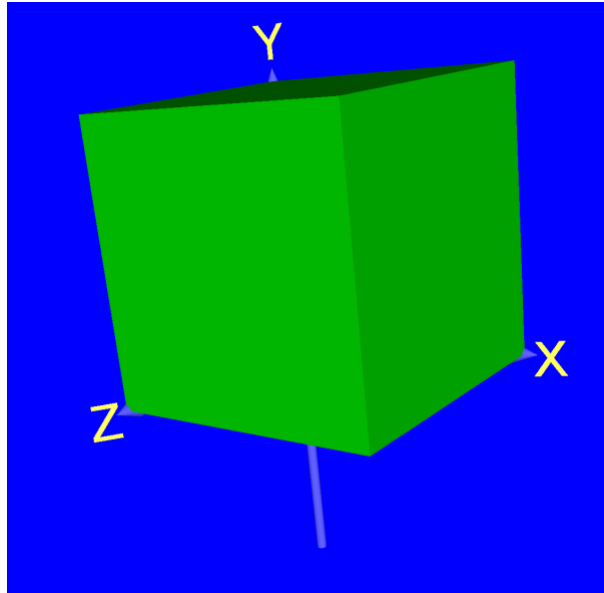

Fig 7. Solid box with $u, v, w \in [0 \ 1]$ and resolution of $[75 \ 75]$
6. solid box.wrl – Shows a solid box as per Fig 7's specifications